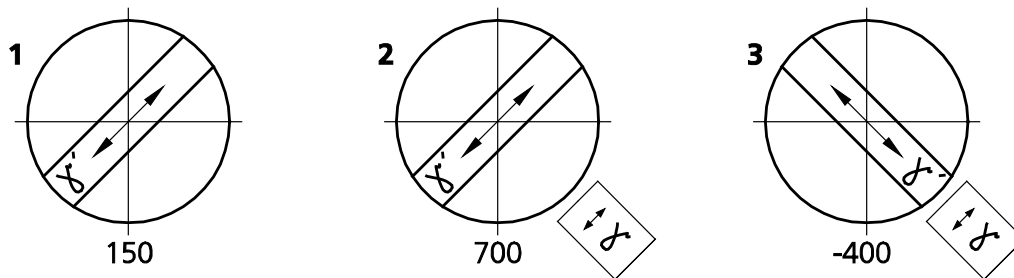
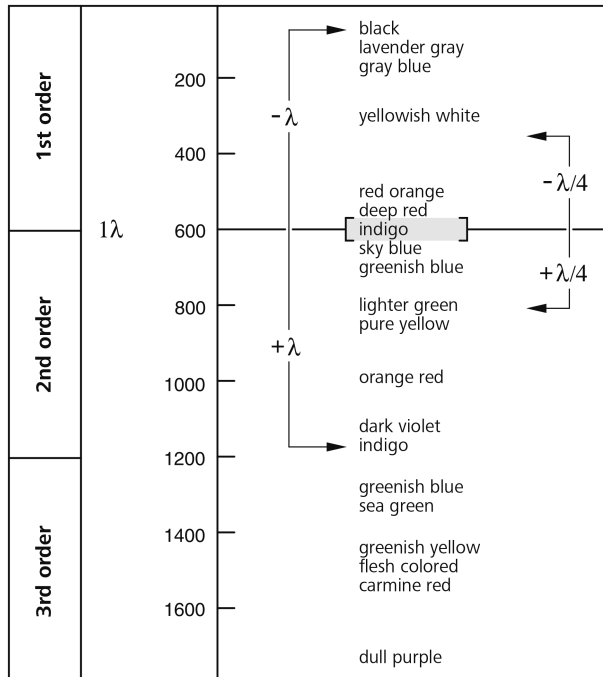

Fig. 4-10 Determination of the polarization direction $n_{\gamma'}$ in a synthetic fiber
Fig. 4-11 Diagram of the Michel-Lévy color tables
- Now turn the stage by approx. 45° until the longitudinal axis of the fiber is pointing in northeast-southwest direction (Fig. 4-11). The sample now shows the strongest brightness (diagonal position). The sample can have any color in this position.
The largest path difference occurs when the polarization direction of the sample or the absolute or relative largest index of refraction (n_γ or n_γ') is parallel to the largest polarization direction of the λ compensator. The sample appears then e.g. in blue-green (Fig. 4-10/2).
The smallest path difference occurs when the direction of polarization of the sample with the absolute or relative smallest index of refraction (n_α or n_α') is perpendicular to the polarization direction of the compensator λ . The sample then appears e.g. yellow (Fig. 4-10/3).
According to the Michel-Lévy color table (Fig. 4-11), the gray-white color which occurs in the bright position as discussed in the example above (Fig. 4-10/1) corresponds to a path difference of 150 nm.